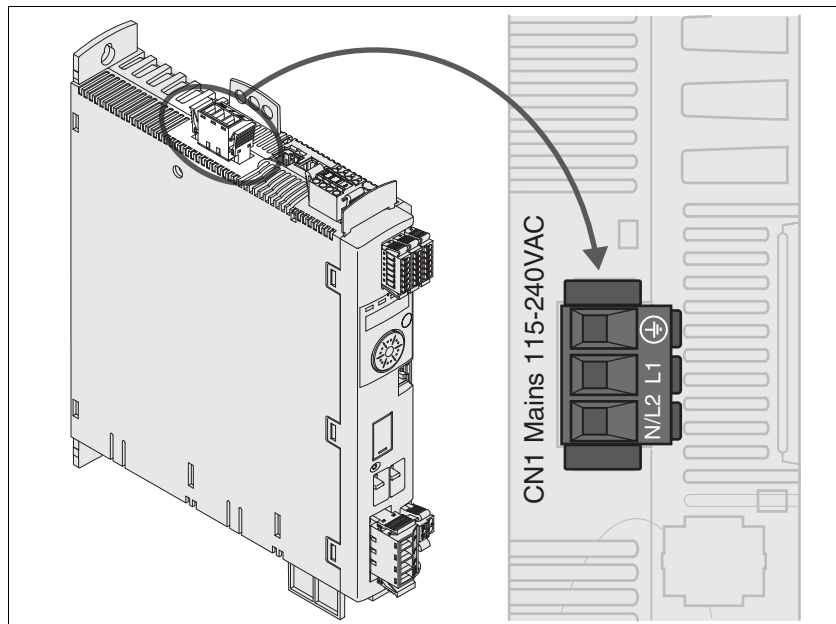

Figure 6.8 Wiring diagram power stage supply voltage for single-phase device.
- Connect the mains cable (Figure 6.8). Note the tightening torque specified for the terminal screws.